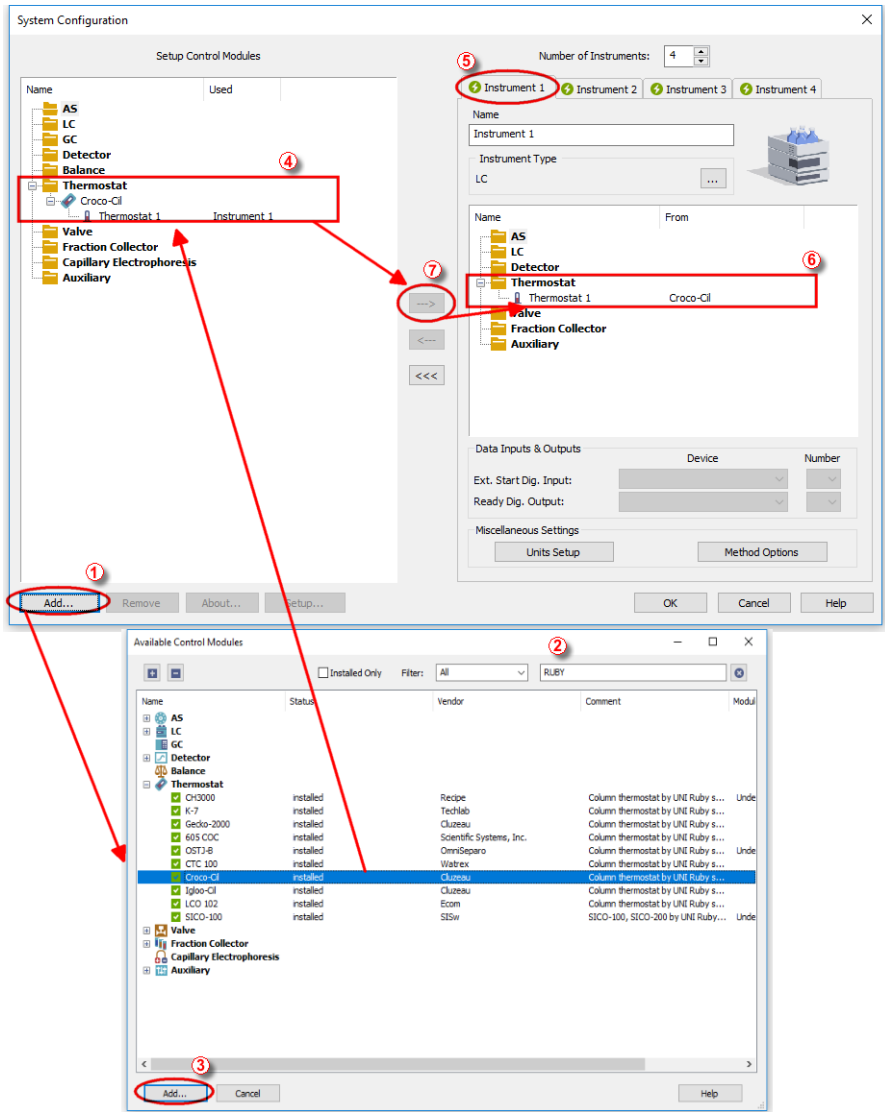

Fig. 3: How to Add Cluzeau Croco-CIL module
- Press the **Add** button (① on **Fig. 3** on pg. 4.) to invoke the *Available Control Modules* dialog.
- You can specify the search filter (②) to simplify the finding of the driver.
- Select the correct item and press the **Add** (③ on **Fig. 3** on pg. 4.) button. Each device with already created UNI profile should have its own item named accordingly in the *Available Control Modules* dialog.